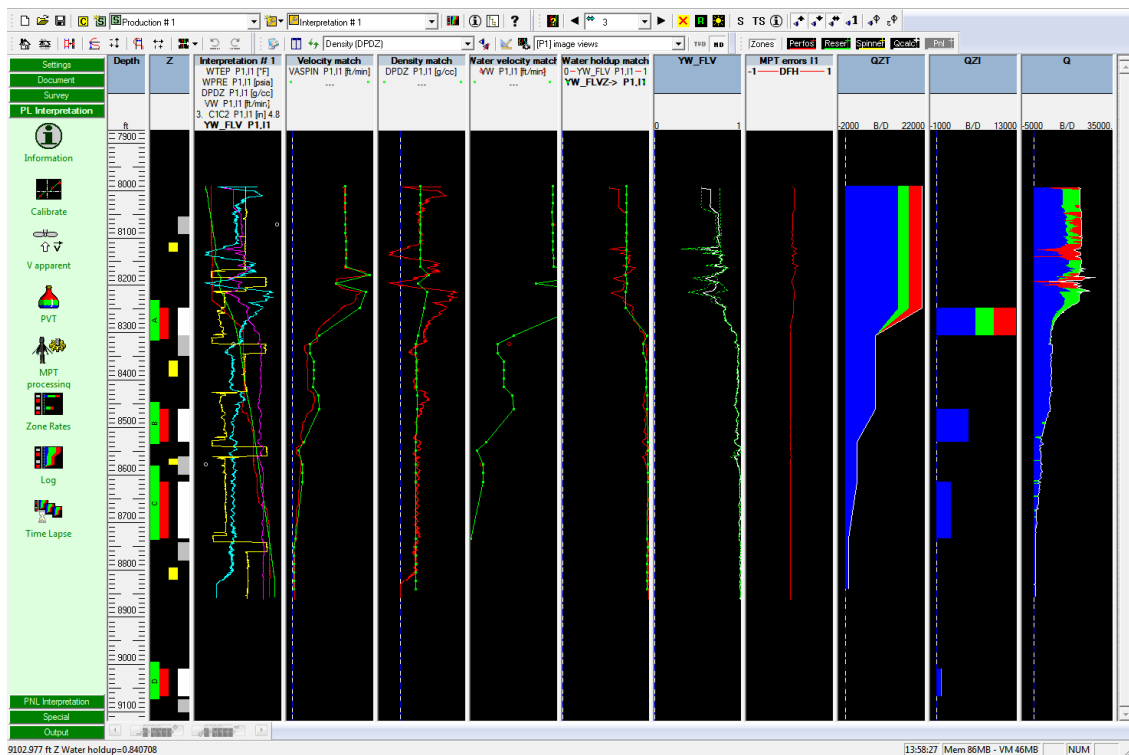

Fig. B05.36 • Complete logs re-generated
- Exit with OK. Re-generate the complete log, Fig. B05.36.